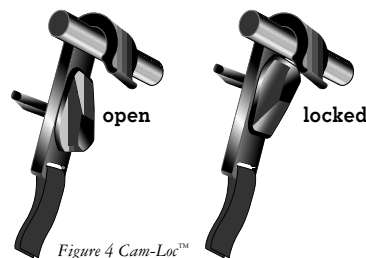

Figure 4: Cam-Loc™
clips are attached to both poles you may engage the Cam-Locs by turning the key 180° until they lock completely onto the pole. When the Cam-Loc is engaged the key should be horizontal. (Figure 4).